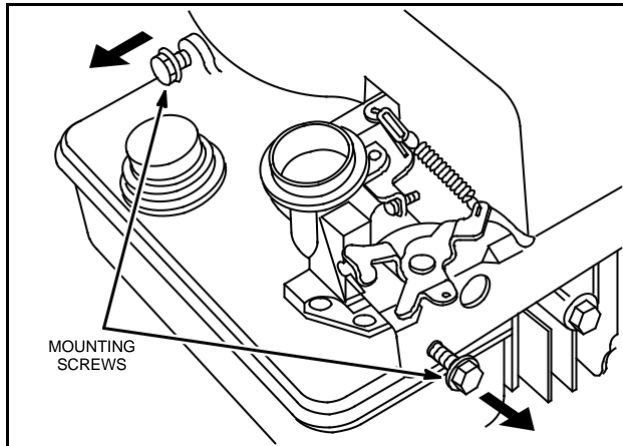

Fig. 220 - REMOVING MOUNTING SCREWS
1. Remove carburetor and fuel tank assembly mounting bolts, Fig. 220.